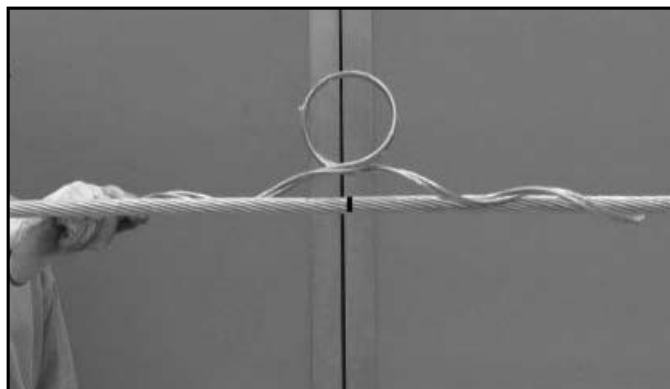

Figure 2
2.02 Install the first of the 5 subsets at the marked location. (Figure 2)